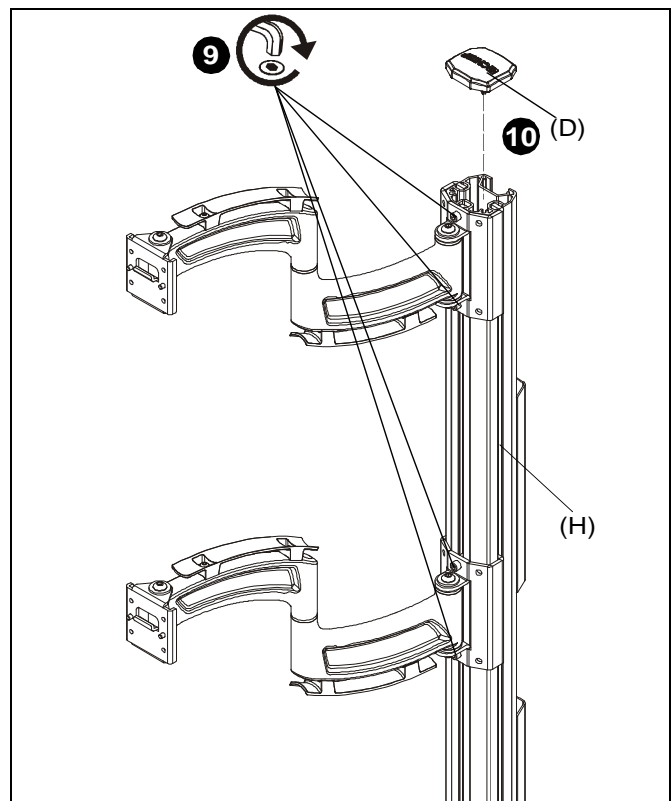

Figure 4
9. Tighten two socket head cap screws to secure each column arm at desired height. (See Figure 4)
10. Install column cap (D) to column (H). (See Figure 4)